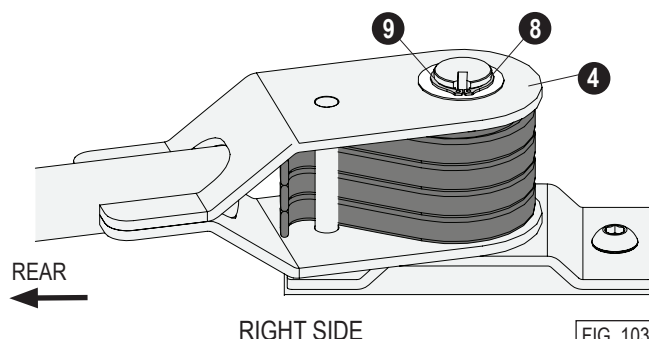

FIG. 103
- Slide the second **lower arm plate (4)** onto the pivot pin.
- Install another **bushing (8)**, followed by a **snap ring (9)**. See Figure 103.